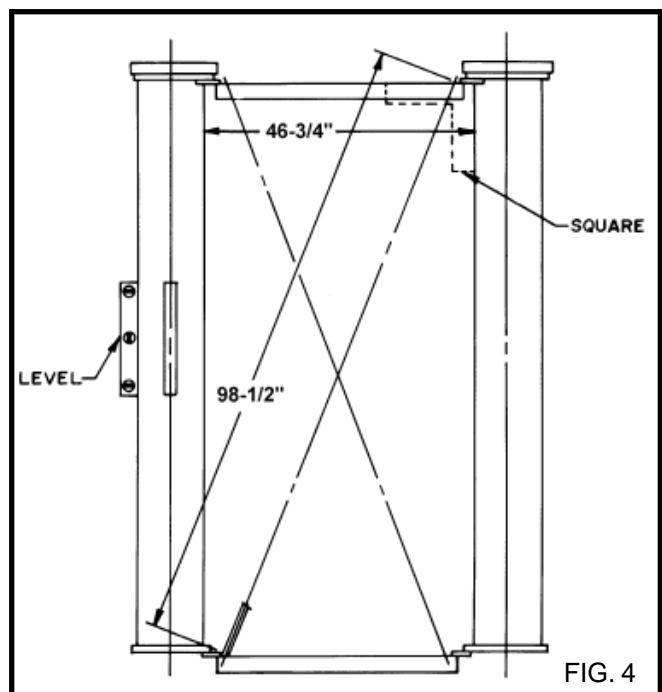

FIG. 4
- A. Position the (2) plunger-cylinder assemblies (A) on wooden horses or equivalent. make sure that the horses are level and the rack tubes on the plunger-cylinder assemblies are facing up.
- B. Fasten the top of the plunger-cylinder assemblies together by bolting the upper brace (E) to the cylinder bolt ring using (4) hex hd. bolts (C). Fasten the bottom of the plunger-cylinder assemblies together by bolting the lower brace (B) to the cylinder bottom plate using (4) hex hd. bolts (C) and (4) washers (D). These (8) hex. hd. bolts (C) should be snug but yet allow some movement for alignment.
- C. Install the (2) tie rods (F&G) criss-cross to the plunger-cylinder assemblies (A) with the turn buckles (H) toward the top.
- D. Adjust the entire assembly to the center-to-center dimensions and diagonal dimensions as shown in Fig. 4.
- F. Fasten (2) pinion box end sections (K) to top of rack tube using (4) hex. hd. bolts (L).
- G. Fasten pinion box center section (J) to end sections of box using (8) speed nuts (JJ) and (8) hex. hd. bolts (L).
- H. Insert square keys (V) into slots in pinion shaft (N). Using a light lubricating oil, lube pinion shaft (N) ends and pinion supports (P&Q) brass sleeve bearings.
- J. While holding the pinion gear (W) in the R.H. pinion support (P), insert the pinion shaft (N) thru the clearance hold in the pinion support; thru the pinion gear (W) and in thru the bearing on the far side of he pinion support.
- K. Secure the end of the pinion shaft on the outside of the pinion support using washer (T) and retaining ring (U).
- L. Repeat steps "J" and "K" for L.H. end of pinion shaft using pinion support (Q).
Fig. 4, adjust each plunger-cylinder to be plumb and parallel to each other. It may be necessary to make minor adjustments to the tie rods to obtain these conditions. This operation is very important for a satisfactory Installation. Block assemblies securely after final level and plumb adjustments.